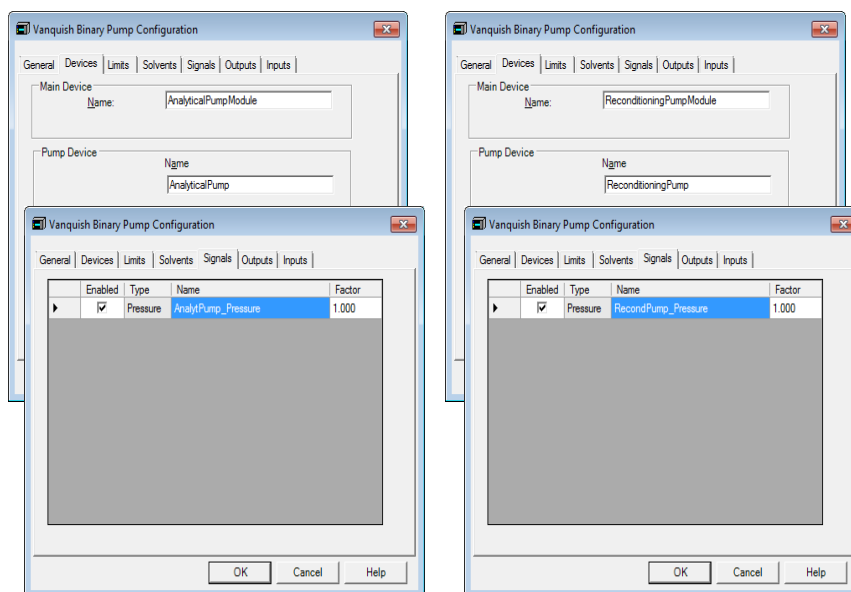

Figure 5: Pump signal channel
- c. Add the Sampler to the instrument. Choose **HPLC: Vanquish** followed by **Vanquish Autosampler**. Under **Device Type**, choose the Vx-A10-A version that reflects the P/N of the Sampler present. Assign the sampler to the previously generated pump device; assign the appropriate pump link if applicable (e.g., *VPUMP_R_STRK*) (Figure 5). Add a Vanquish Charger module if present in the configuration and follow the instructions in the *Vanquish Charger Installation Guide*.